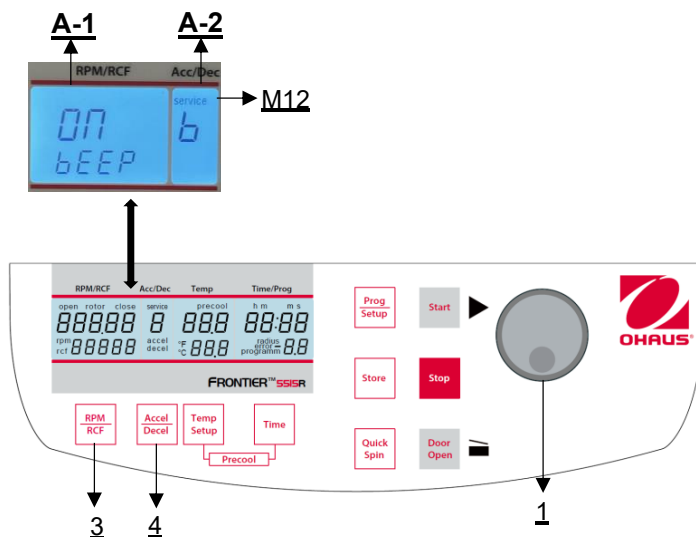

Figure 34
Proceed as described under point 4.1.1 to enter this program mode and then press the key **"Accel/Decel"** (4). In the display **"Acc/Dec"** (A-2) the word **"Service"** (M12) flashes. Now select the letter **"b"** with the adjusting knob (1). As a result, in the display **"RPM | RCF"** (A-1), the word **"ON/BEEP"** appears. After pressing the key **"RPM | RCF"** (3), you can turn the keyboard sound (On) or (Off) with the adjusting knob (1) (see figure 34).